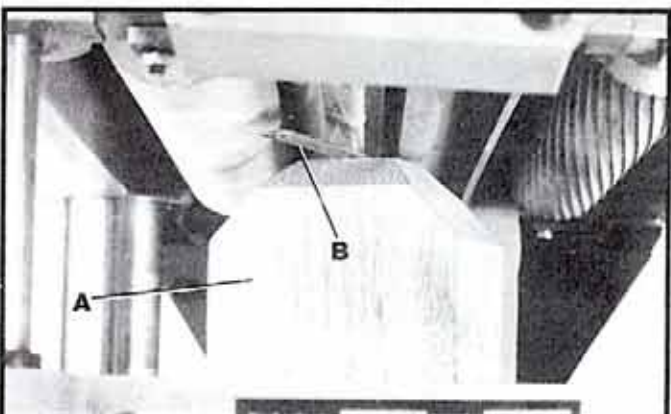

Fig. 40
3. Place the gage block (A) Fig. 40, on the table directly underneath the cutterhead, as shown. Using a 0.040" feeler gage (B) Fig. 40, placed on top of the gage block as shown, raise or lower the head assembly until one of the knives just touches the feeler gage when the knife is at its lowest point. Then tighten the head locking knobs.